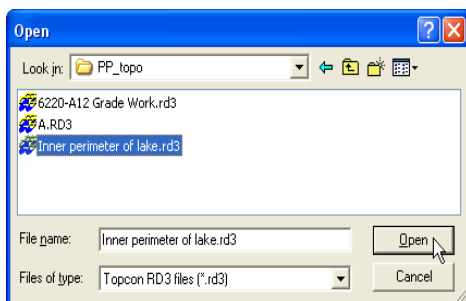

Figure 6-1. Import 3D Alignment File
2. On the **Open** dialog box, navigate to the location of the desired file, select it, and click **Open** (Figure 6-1). The alignment from the selected file is added to the 3D Project file.